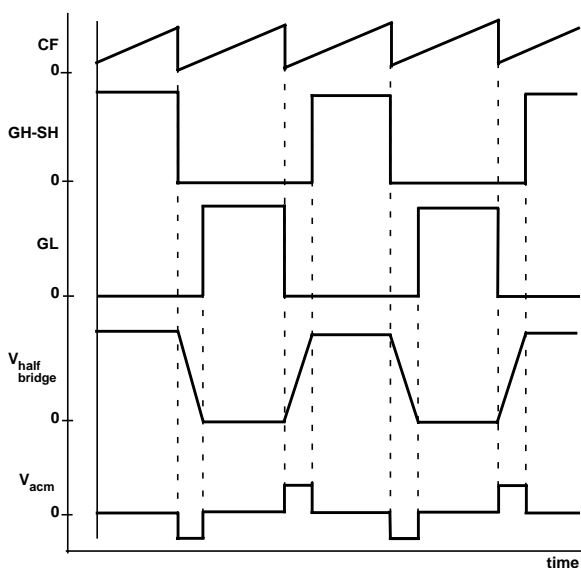

Fig. 2 Oscillator and driver signals
The internal oscillator is a voltage-controlled circuit (VCO) which generates a sawtooth between the CF_{high} level and 0V. The frequency of the sawtooth is determined by capacitor C_{CF} , resistor R_{IREF} , and the voltage at the CSW pin. The minimum and maximum switching frequency are determined by R_{IREF} and C_{CF} . Their ratio is internally fixed. The sawtooth frequency is twice the half-bridge frequency. The UBA2014 brings alternately the transistors TR1 and TR2 in conduction with a duty cycle of about 50%. An overview of the oscillator signal and driver signals is given in Fig.2. The oscillator starts oscillating at f_{max} . During the first switching cycle the low-side (LS) transistor is switched on. The first conducting time is made extra long to be able to charge the bootstrap capacitor.
The non overlap time is realized with an adaptive non-overlap circuit (ANT). With an adaptive non-overlap, the application determines the duration of the non-overlap and makes the non-overlap time optimal for each frequency (also see Fig. 2). The non-overlap time is determined by the slope of the half bridge voltage, and is detected by the signal across resistor R16 directly connected to the ACM pin. The minimum non-overlap time is internally fixed. The maximum non-overlap time is internally fixed at about 25% of the bridge period time. An internal filter of 30ns is included at the ACM pin to increase the noise immunity.